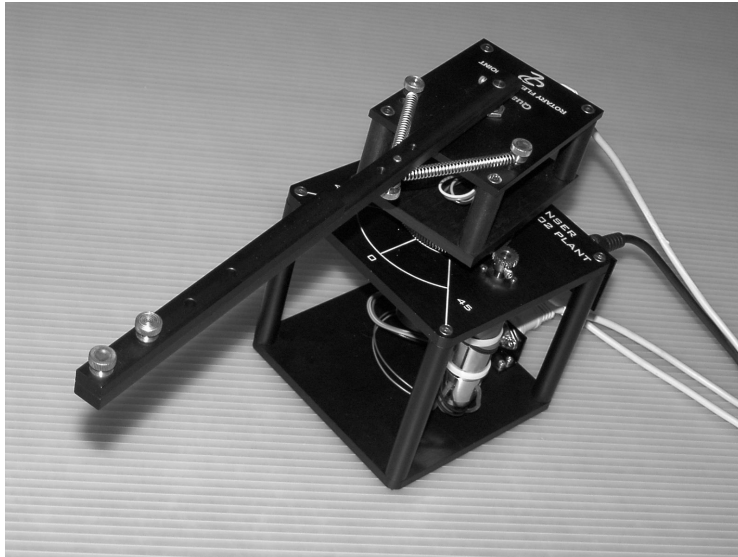

Figure 1: Flexible joint connections, front view.
2. Connect the flexible joint as shown in Figures 1 and 2. If you do not understand the figure, follow the next steps.